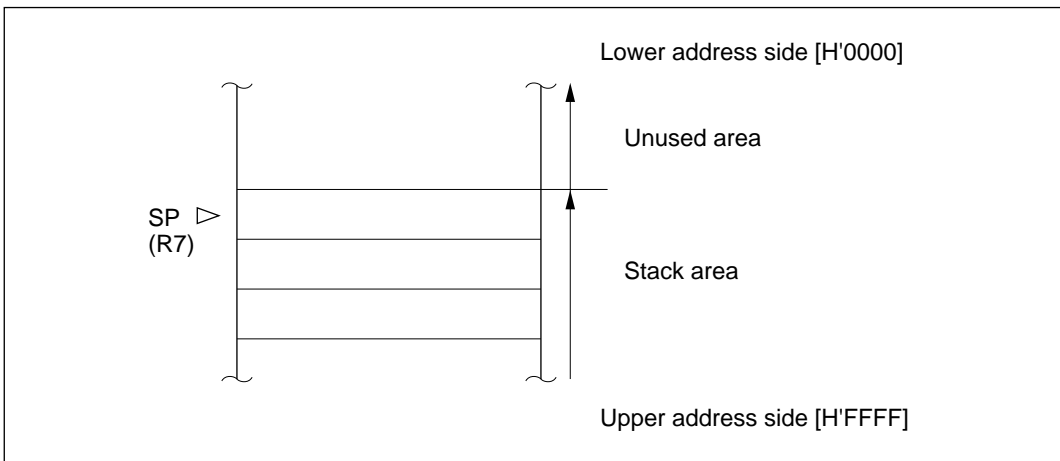

Figure 2-2 Stack Pointer
R7 also functions as the stack pointer (SP), used implicitly by hardware in exception handling and subroutine calls. When it functions as the stack pointer, as indicated in figure 2-2, SP (R7) points to the top of the stack.